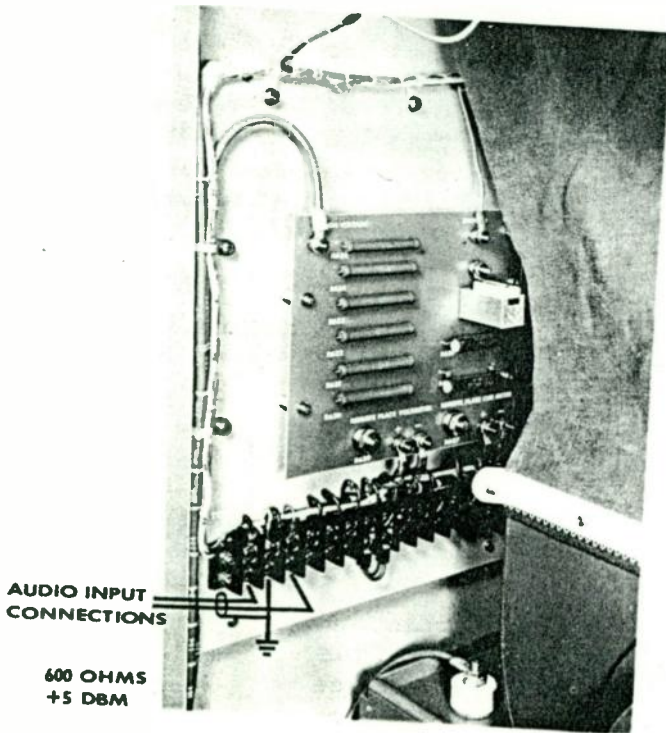

FIGURE 4
5. Connect the shielded audio line to the terminal board shown in Fig. 4, Page 7, grounding the shield to terminal #2 and connecting the two wires to terminals #1 and #3. The audio input impedance is 600 ohms and input level required is about +5 dbm. If a limiting amplifier is used adjacent to the transmitter such as the Gates SA39B, the output of the limiter is often connected to these terminals.
FILAMENT ON: Connect to terminals 4 and 5 of terminal board TB601. See Fig. 4, Page 7. This is the same terminal board to which you have earlier connected the 2000 input line. — Remove the brown wire from terminal #12 on terminal board TB602 and tape the end of the wire. This removes the holding circuit of the filament relay in the transmitter to provide the failsafe feature.